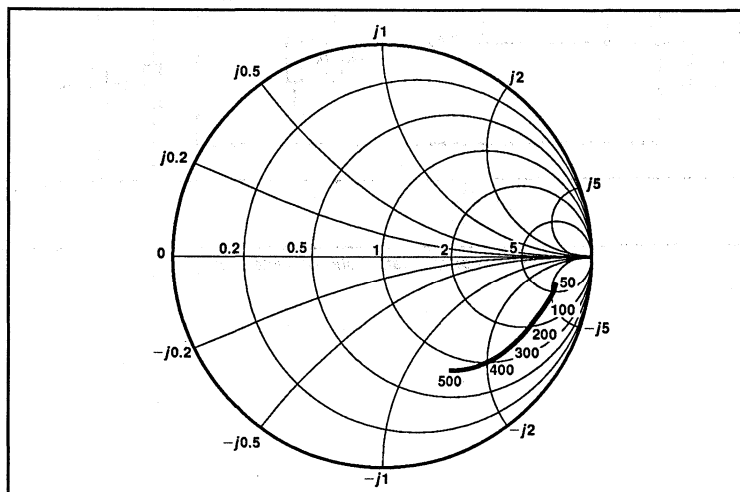

Fig. 4 Typical input impedance. Test conditions: supply voltage = $-5.2V$, ambient temperature = 25°C, frequencies in MHz, Impedances normalised to 50Ω
5. Input impedance is a function of frequency, See Fig. 4.